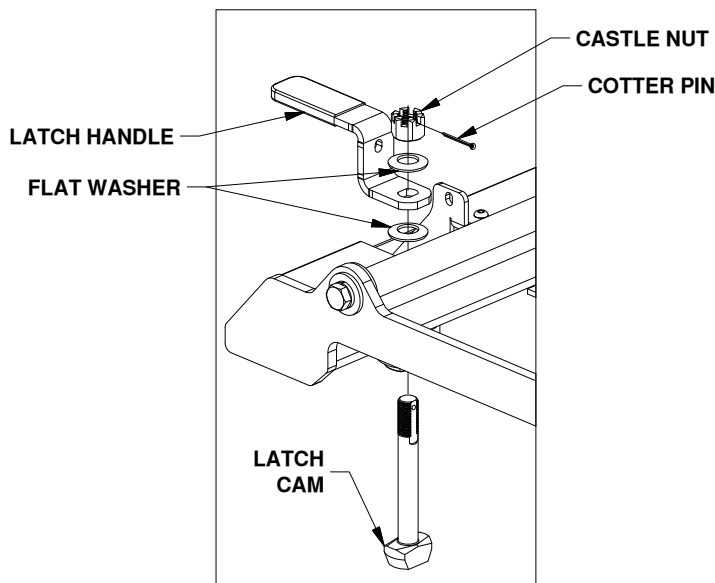

Figure B3: List of latch parts.
**3. Adjust the tension in the latch handle,** for parts list and visual guide refer to Figures B3 and B4.